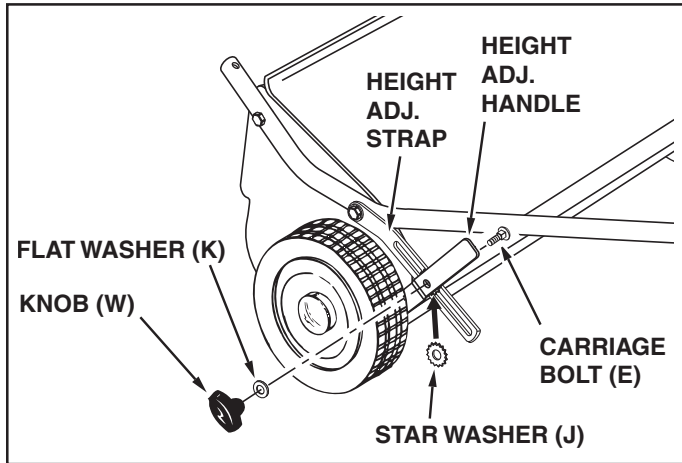

FIGURE 7
STEP 8: (SEE FIGURE 7)
- Place the height adjustment strap to the **inside** of the height adjustment handle. Place the star washer (J) **between** the height adjustment strap and the height adjustment handle. Insert the carriage bolt (E) through the strap, the star washer and the handle. Assemble the flat washer (K) and the plastic knob (W) onto the end of the bolt and tighten.